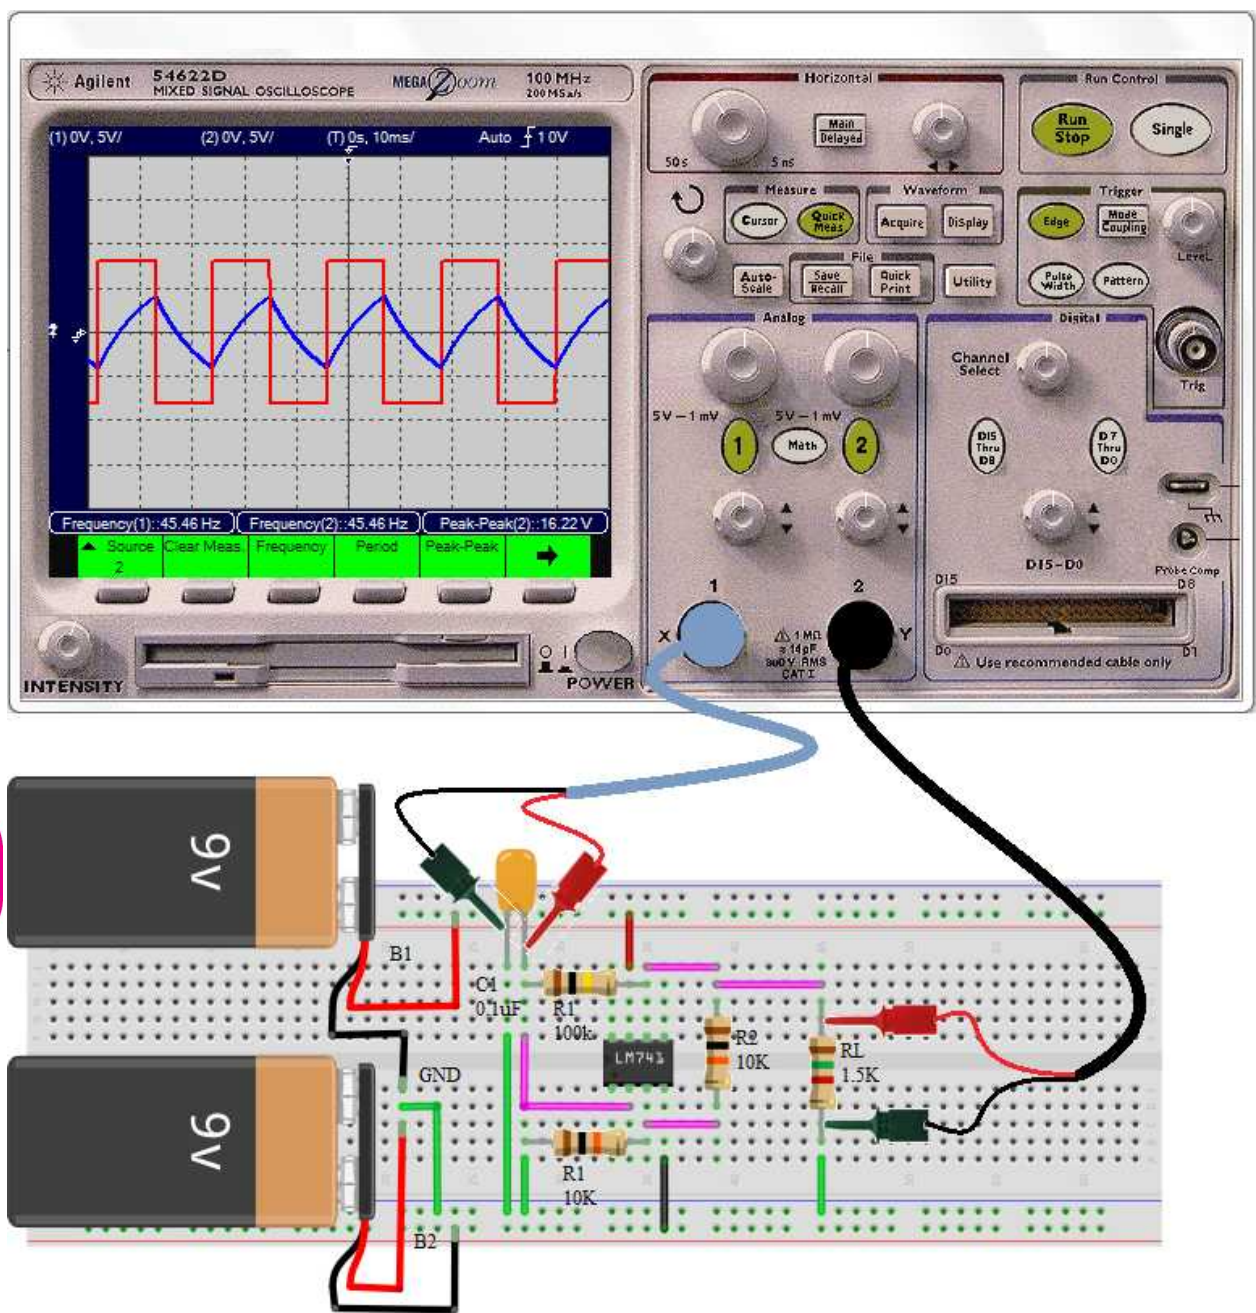

Figure 7-73: A square wave relaxation oscillator experimental circuit connection
1. Connect the circuit as illustrated in figure 7-73. Locate the pins of the op-amp IC and make sure that pin 7 is connected to +VCC and pin 4 to -VCC of dc supply.